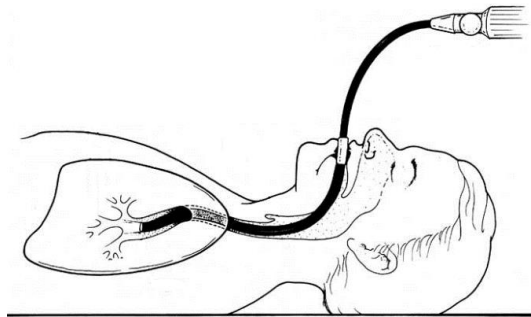

Figure 3: Bronchoscope navigation into patient's airways
6. Introduce the flexible bronchoscope through the nose or mouth as appropriate. See **Figure 3 below**. Avoid using flammable bronchoscope lubrication that can be ignited by sparks.